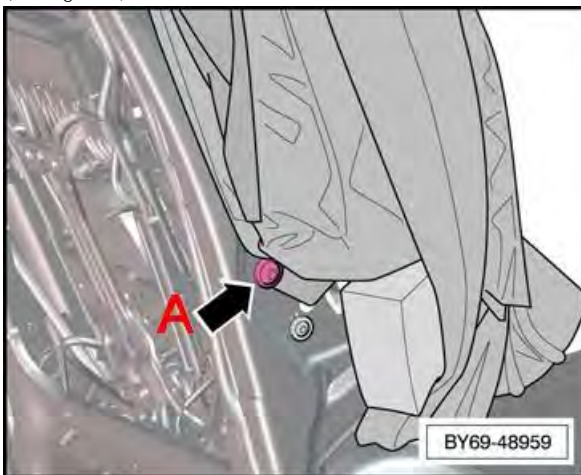

Figure 7
8. Using an in date calibrated torque wrench apply 9 Nm to fastener (A) (part number N90737101 - M6 X 12) for both front seats (see Figure 7)